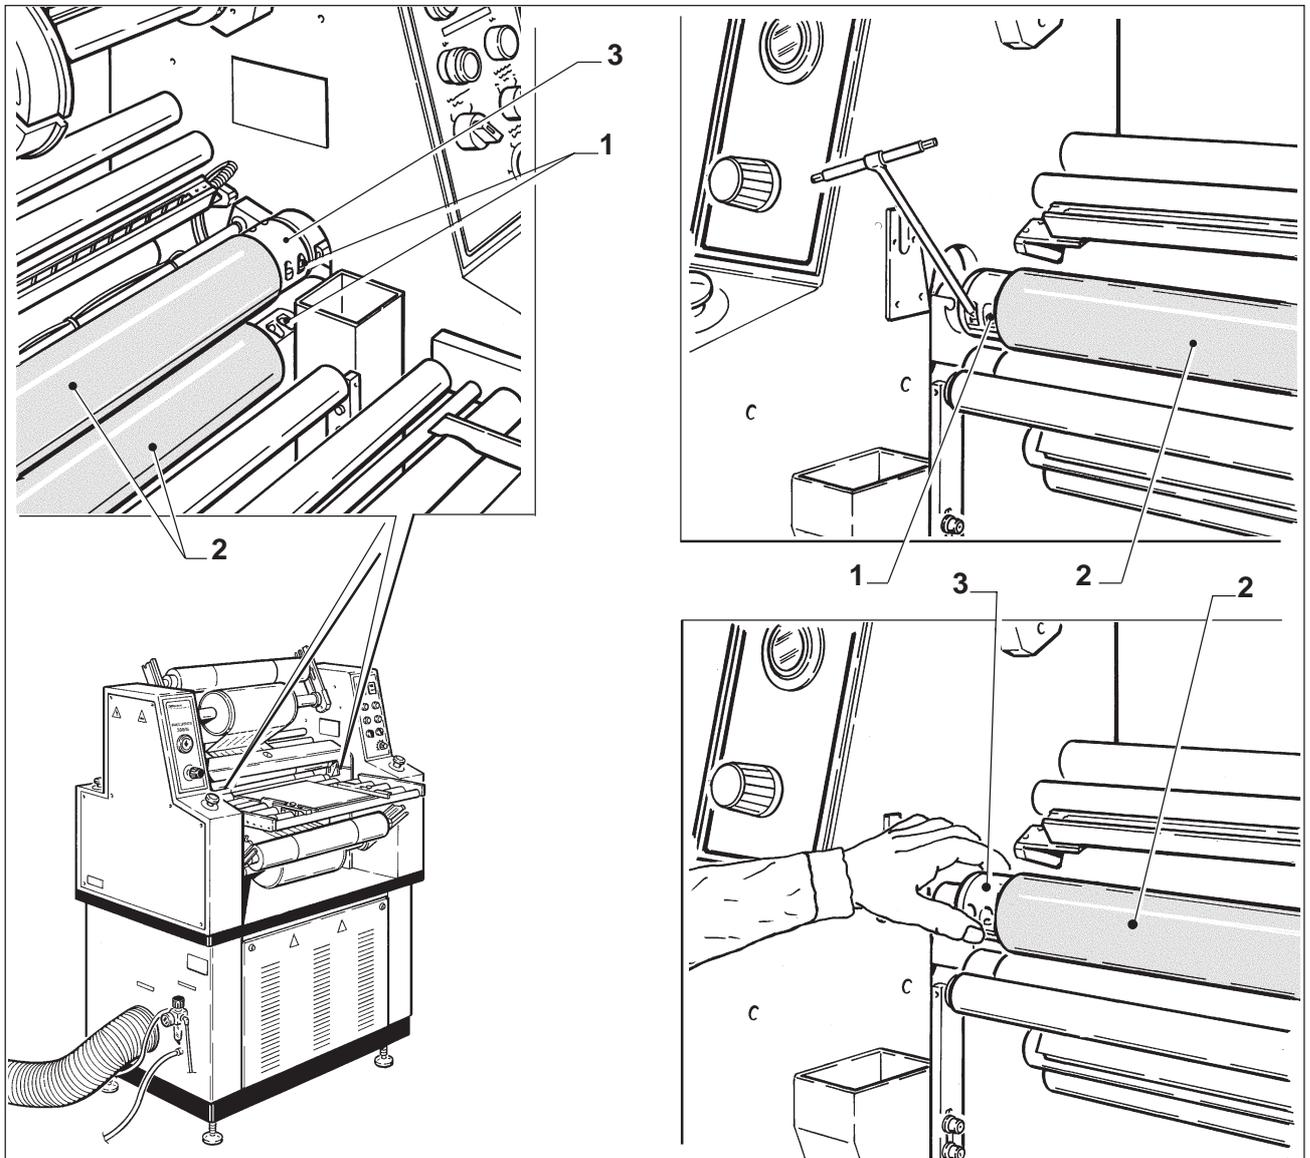

Fig. 14 - REPLACEMENT OF LAMINATION ROLLS
6.3 - REPLACEMENT OF LAMINATION ROLLS (Fig. 14 - 15)